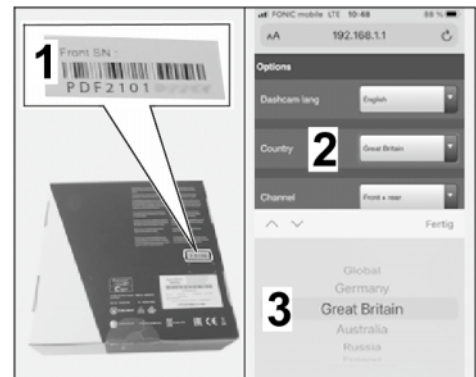

Figure 20
- 5.3.2 Select the country (⇒ Figure 20).